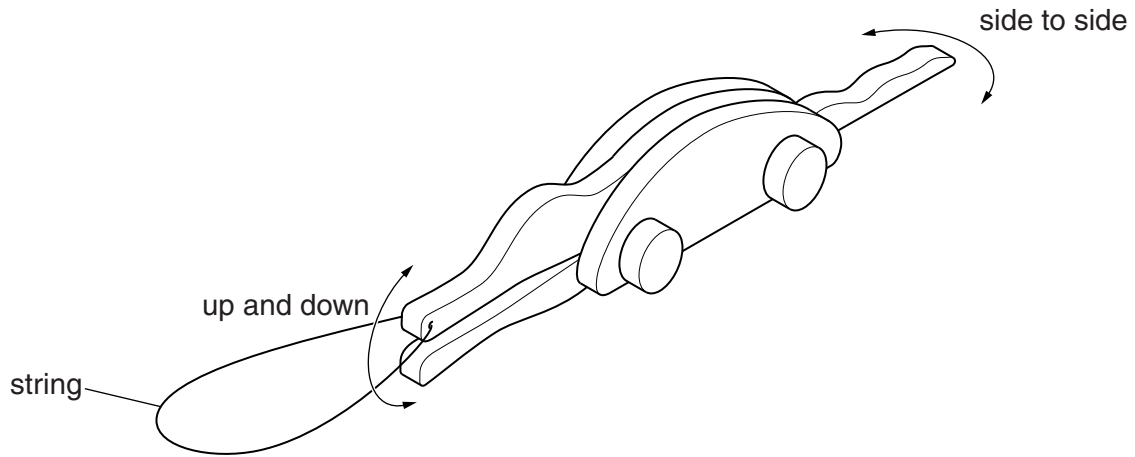

Fig. 8
- 4 Fig. 8 shows a child's pull along toy.
- (a) Use sketches and notes to design **two** mechanisms that will provide movement of the jaw and tail as shown in Fig. 8.